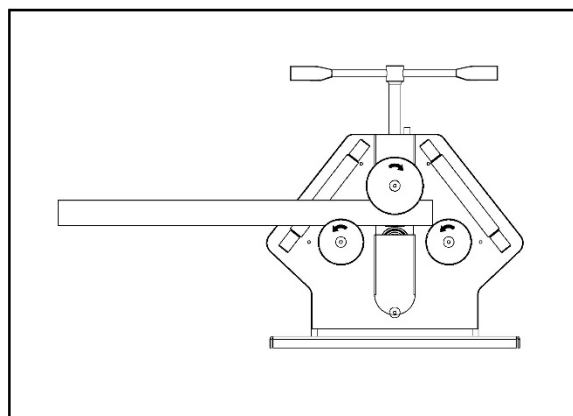

Figure 8-3: feed material back and forth
3. Press foot pedals to send workpiece forward and backward through the rolls (Figure 8-3).